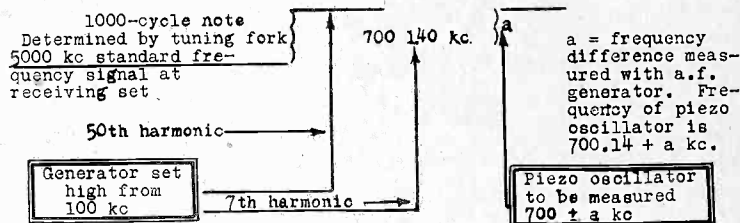

FIG. 2
A change in the method described above which does not require a beat indicator, is to adjust the radio-frequency generator to have a known frequency difference with the incoming wave by means of matching with that of a tuning fork of known frequency such as 1000 cycles per second. This method is more complicated in calculation because a record must be made (1) as to whether the radio-frequency generator was adjusted higher or lower than zero beat, (2) the frequency difference, and the harmonic relations between, (3) the standard signal and the radio-frequency generator, and (4) between the radio-frequency generator and the piezo oscillator. The harmonic relations, however, come in to any method of measurement of this kind. The measurements involving the use of the tuning fork for adjusting the generator to give a beat note 1000 cycles per second below the 5000-kc signal would be made as follows, and are shown diagrammatically in Fig. 2. Set generator from approximate zero beat at 100 kc to 99.98 kc. The 50th harmonic is $99.98 \times 50 = 4999.0$ kc (beats with 5000 kc in receiver which is not oscillating and gives a 1000-cycle note). The 7th harmonic of the generator ($99.98 \times 7 = 699.86$ kc) may now be heard beating in the telephones of the piezo oscillator which is known to be approximately 700 kc. If this value were exactly 700 kc, a note of $700 - 699.860$ kc or 140 cycles would be heard. However, the beat note produced is matched with a corresponding note from the audio-frequency generator. If the piezo oscillator had the frequency of 700.520 kc as assumed previously, the audio-frequency note measured would have been $700.520 - 699.860 = 0.660$ kc or 660 cycles per second.